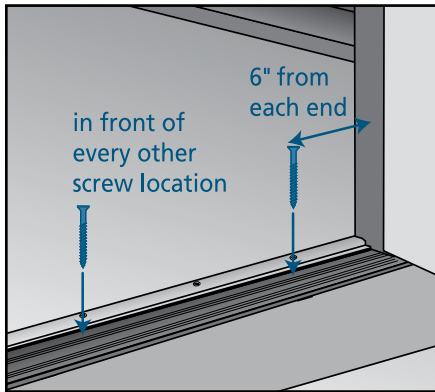

Fig. 30
- Db. Some inswing doors require an adjustable threshold; **if adjustable threshold** (Fig. 30):